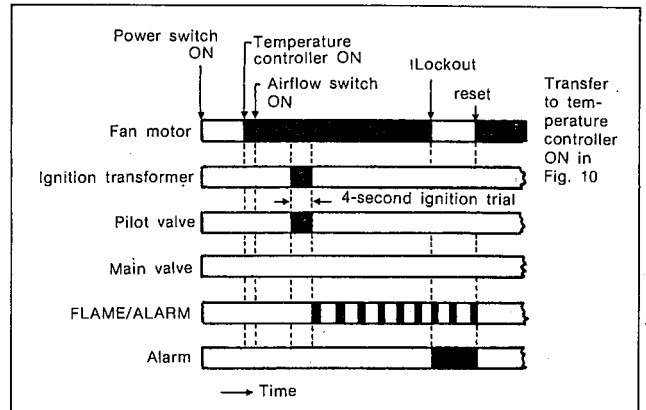

Fig. 11
2. Ignition Failure (No ignition) (See Fig. 11)